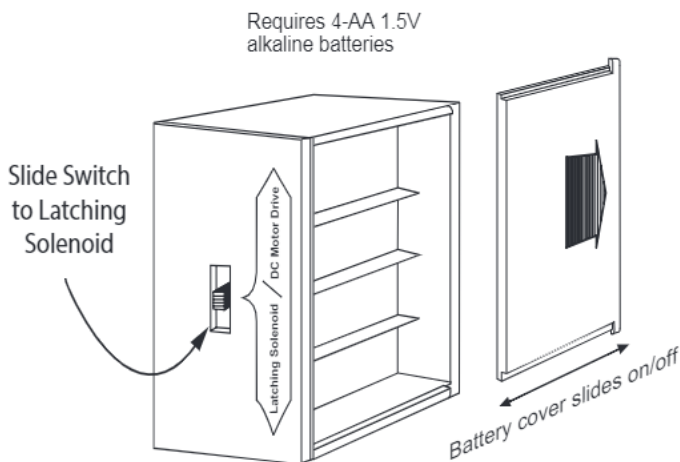
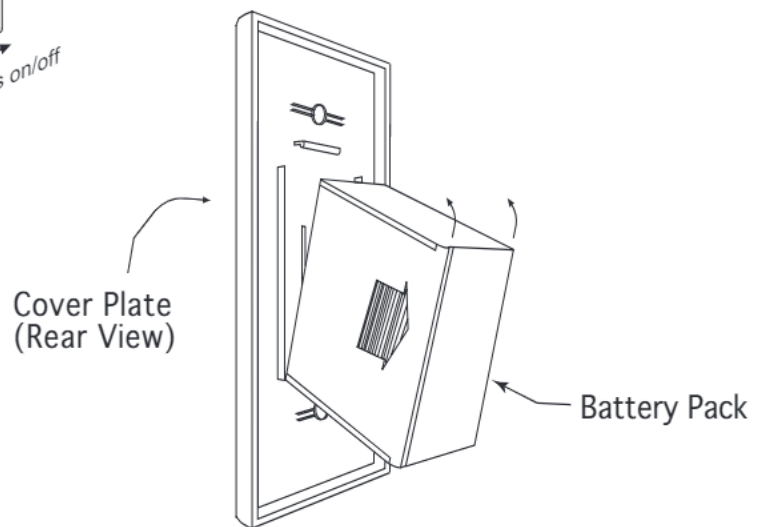

Fig. 5. Slide switch on latching solenoid
Fig. 6 Cover plate installation
1. Install (4) AA batteries in to the battery pack by sliding the cover off as shown in Fig. 5. Double check to ensure the switch on front of the battery pack is in the latching solenoid position. Install the battery pack cover plate by snapping it into place on the back side of the white cover plate as shown in Fig 6. **Note:** Be sure the batteries are installed positive-to-positive and negative-to-negative. If one battery is installed backwards the system will not operate.